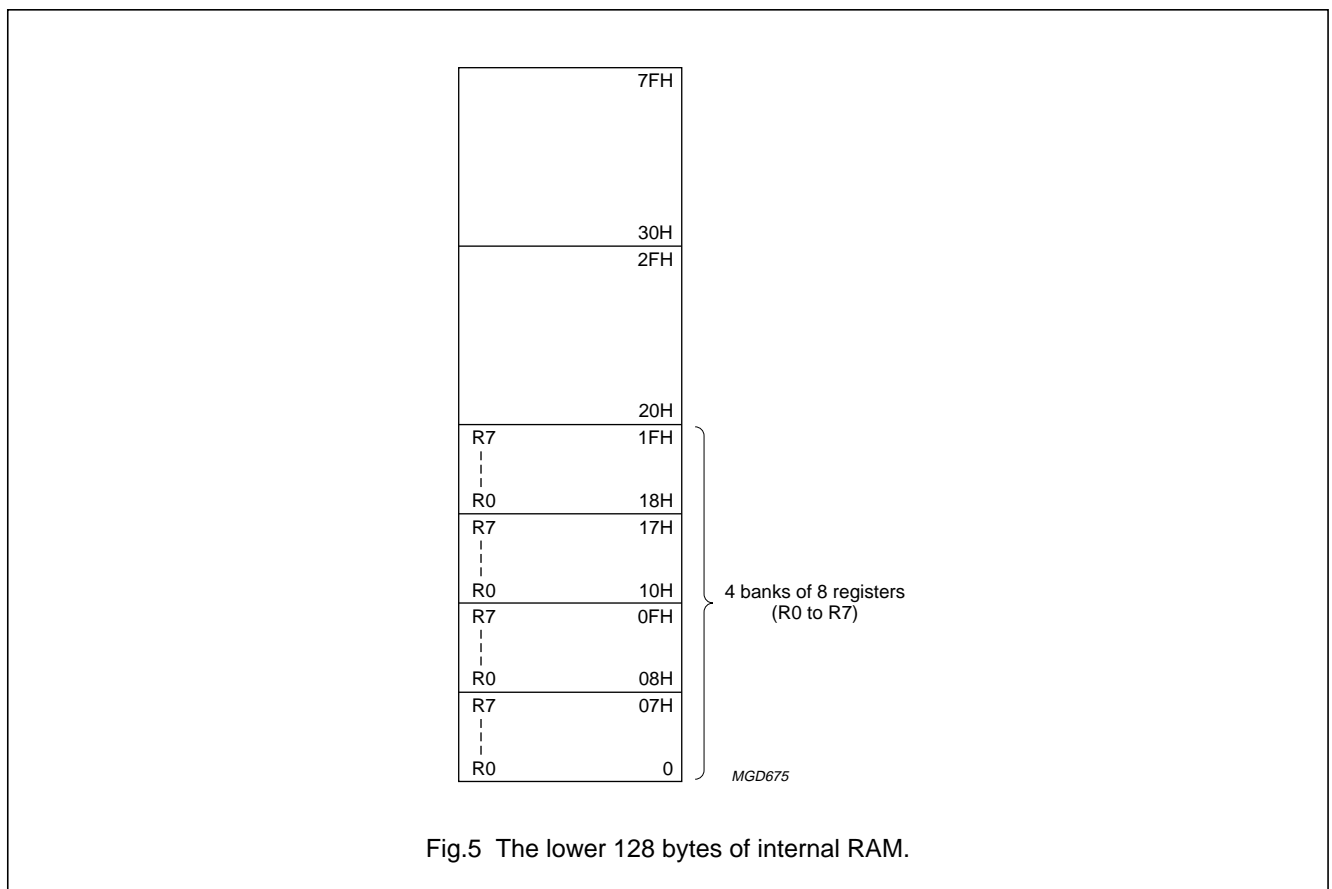

Fig.5 The lower 128 bytes of internal RAM.
- Registers in one of the four register banks through Direct or Indirect (see Fig.5)